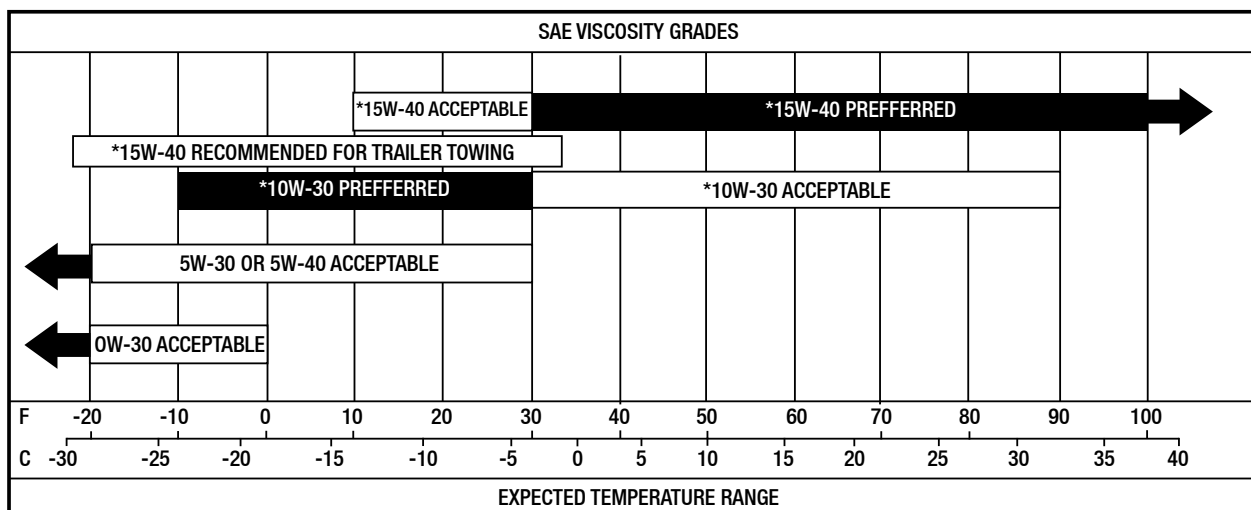

Figure 2
1. Ensure engine oil is clean, is the correct viscosity for the temperatures it will be operating in (refer to Figure 2 on the next page) and has the recommended API service category rating (we advise using CJ–4 or CI–4 PLUS, although Ford allows CI–4).